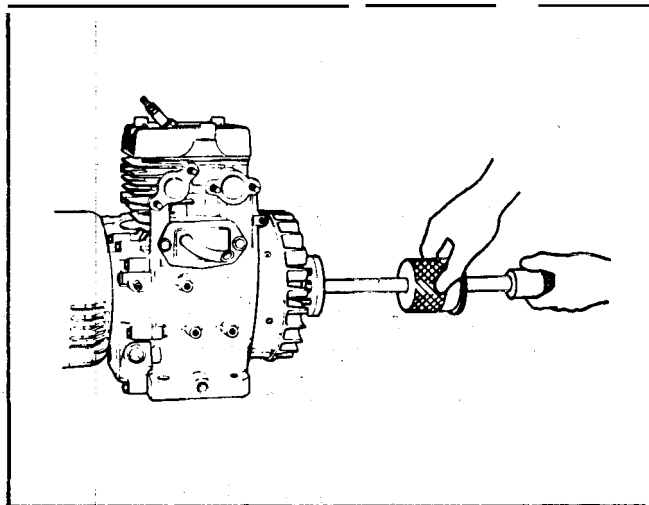

Figure 39
8. Use a puller or remove to remove the flywheel. See the section on special tools on page 19, for the correct tool and part number. See Figure 39.